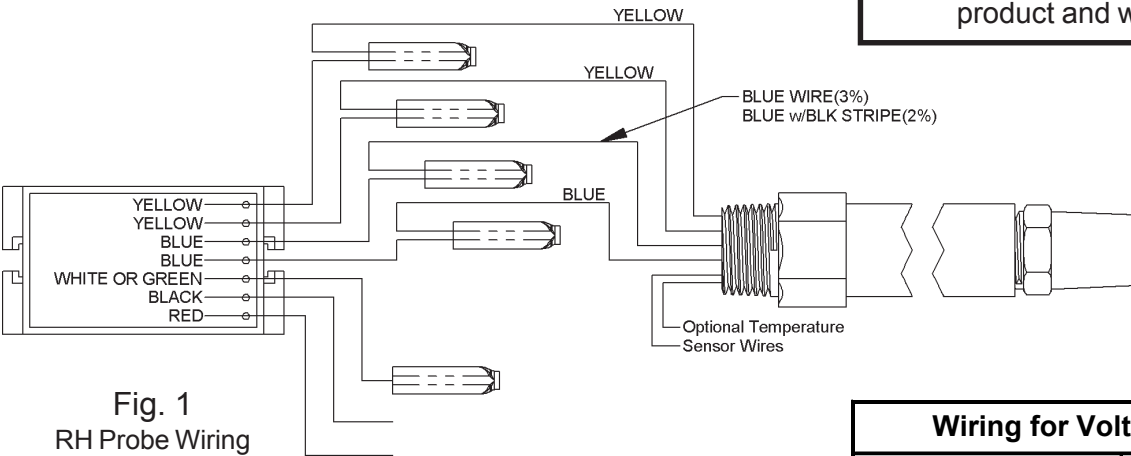

Fig. 1
6. Place like colored wires together from the probe to the transmitter as shown in Figure 1.